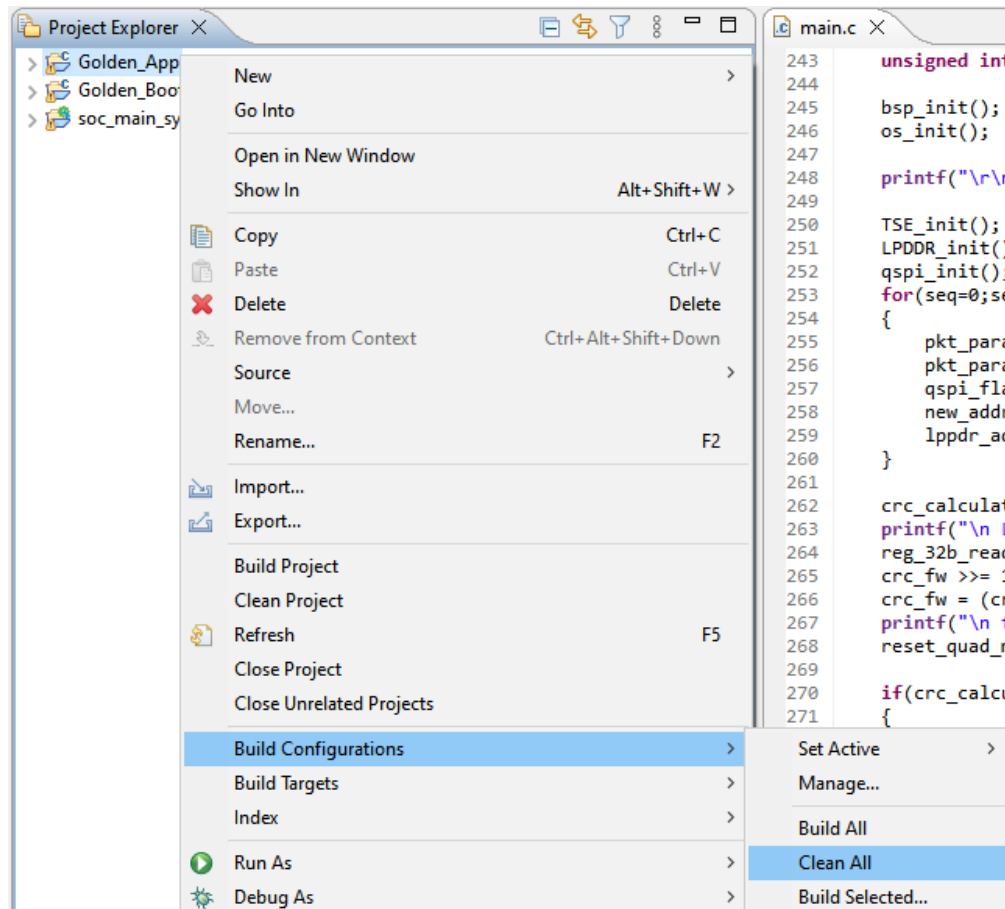

Figure C.35. Clean Project Configurations
8. Right-click on the firmware project folder **Golden_App** and select the option as shown in Figure C.35 to clean the project before building.